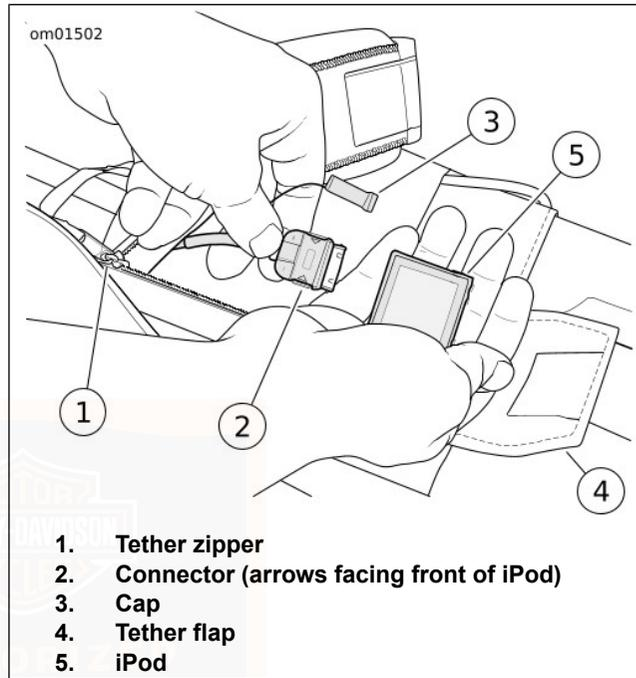

Figure 26. iPod Installation and Removal
2. See Figure 26. Open the flap and unzip the tether.